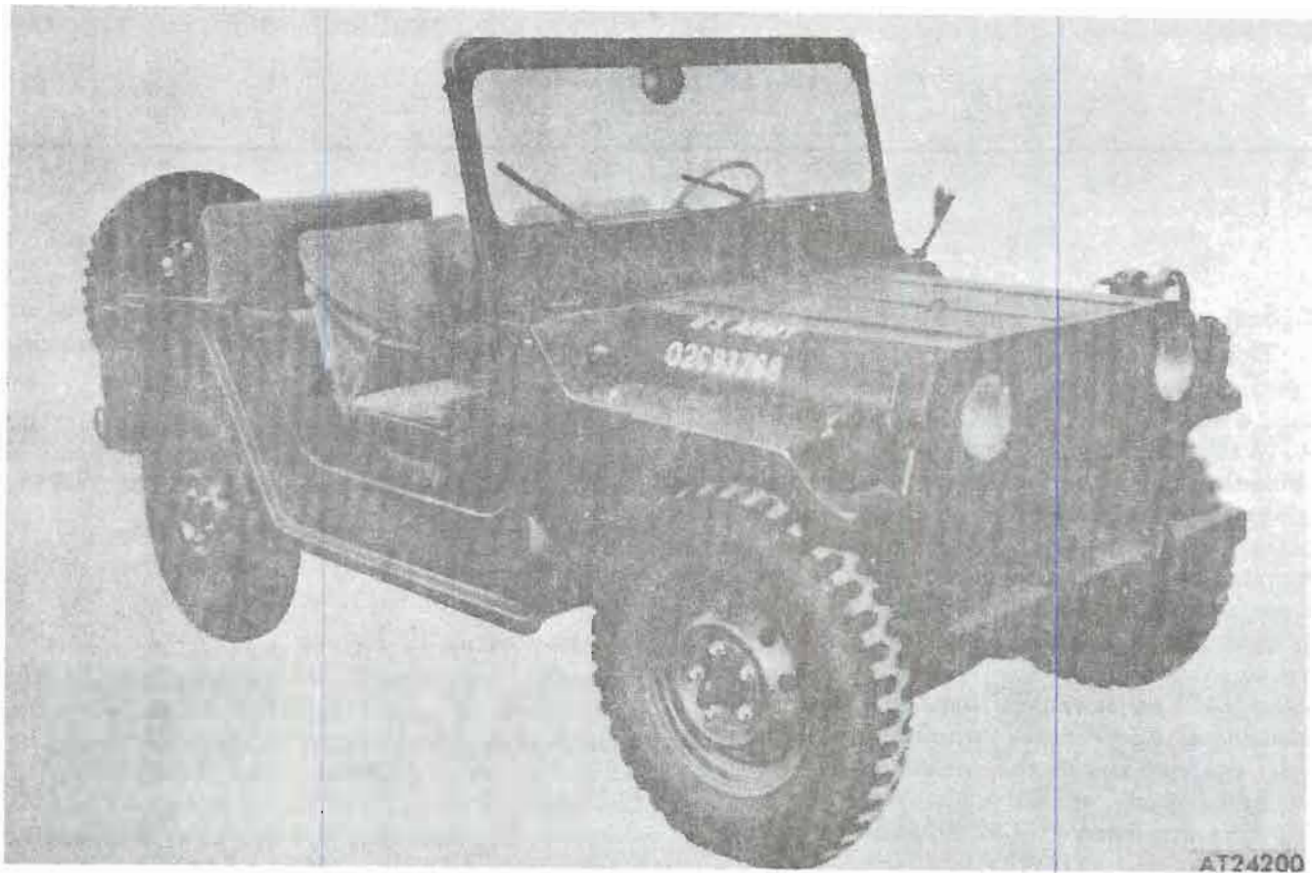

Figure 1-1. Utility truck, 4 x 4, 1/4 ton—right front view with top removed.
a. This manual contains instructions for direct support and general support maintenance of ¼ ton, 4 x 4, utility trucks M151, M151A1, M151A2, M151A1C, M825, and M718 and M718A1 truck ambulance vehicles, and all current special purpose kits available for installation on these vehicles. It contains descriptions of, and procedures for, removal, disassembly, inspection, repair, assembly, and installation for the power train, steering gear, suspension, body, chassis components, and special purpose equipment for the ¼ ton, 4 x 4, utility trucks, M151 series vehicle (figs. 1-1 through 1-3). It also contains procedures for initial installation of special purpose kits to the vehicle.
a. The M151A1, 1/4 ton, 4 x 4, utility truck (fig 1-1) is a general purpose personnel or cargo carrier similar to the M151. Early model (M151) vehicles do not have directional turn indicators and later models (M151A1) do not have rear side reflectors. The main functional difference between the M151